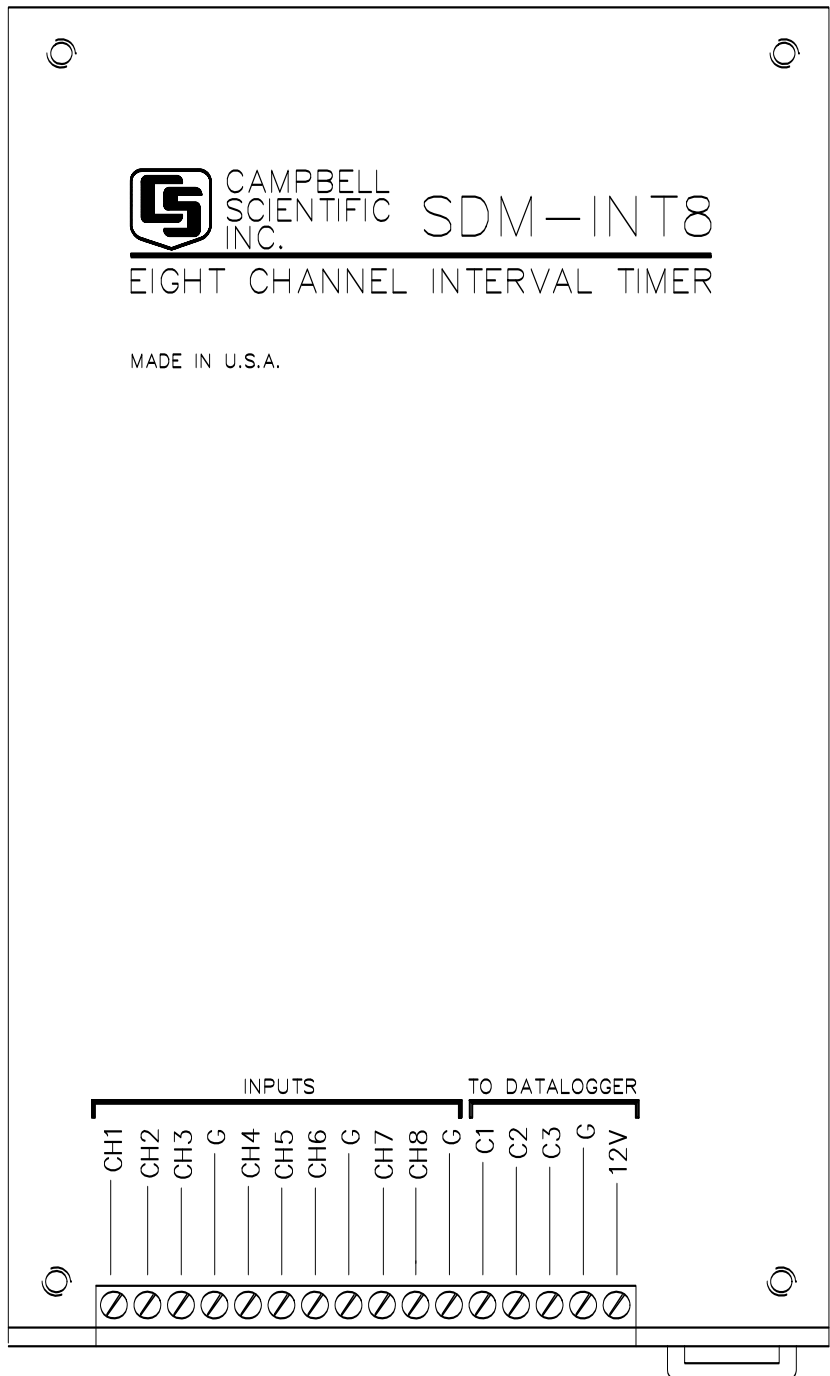
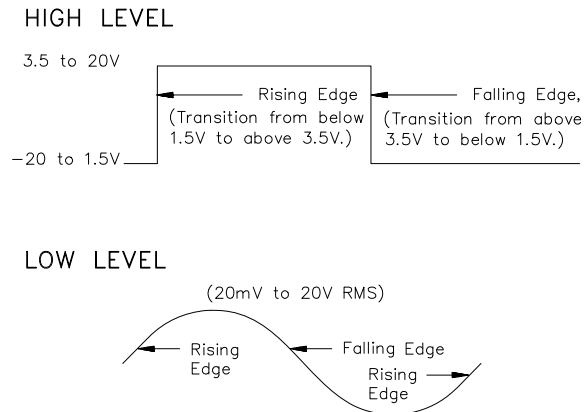

FIGURE 1. SDM-INT8 Front Panel
FIGURE 2. Voltage Input Options, Edges, and Thresholds
The 8 channel Interval Timer (INT8; see Figure 1) is a measurement module which outputs processed timing information to a 21X, CR10(X), CR23X, CR800, CR850, CR1000, CR3000, CR5000, or CR9000(X) datalogger. Each input channel is programmed to detect transitions from low or high level voltage inputs (Figure 2). Period, pulse width, frequency, counts, and time intervals are output to the datalogger for further processing/logging.